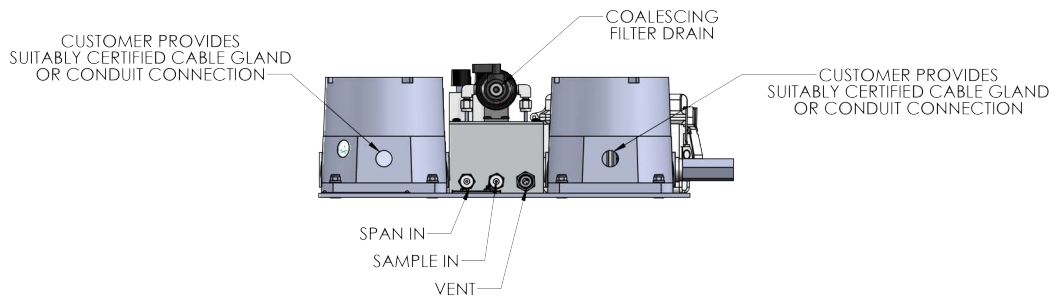
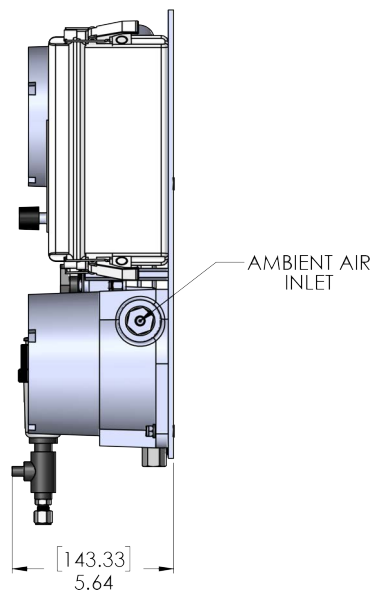

Figure 5. Gas ports (bottom elevation)
Figure 6. Ambient air port (right elevation)
Figure 5 indicates the positions of the span, sample inlets and the vent outlet; *Figure 6* shows the ambient airport.
1. See Figure 5 and Figure 6 on page 12 for port designation, and connect your **Sample** and **Vent** lines accordingly.